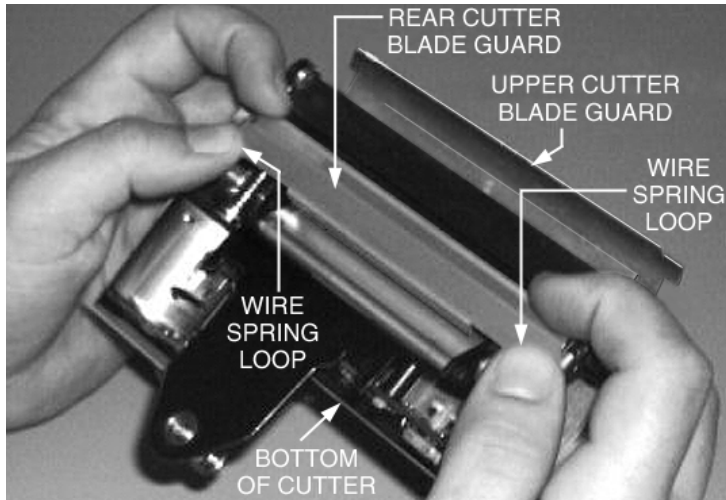

Figure 20 Cutter Module Disassembly
1. See Figure 20. Hold the Cutter Module as illustrated. Put your thumbs on the two Wire Spring Loops and your index fingers on the top of the Rear Cutter Blade Guard. It may help to lay the Cutter Module on a table or other surface throughout this process.
5. To provide complete access to the area to be cleaned, raise the Upper Cutter Blade Guard as shown in Figure 20.